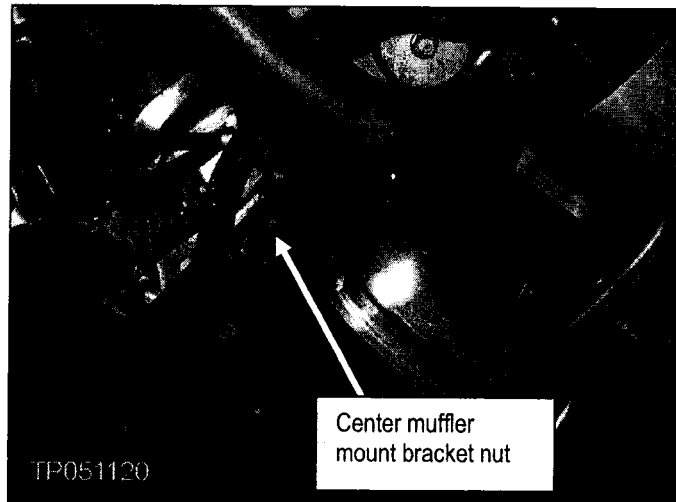

Figure 43
9. Remove the nut that holds the center muffler mount bracket (see Figure 43).